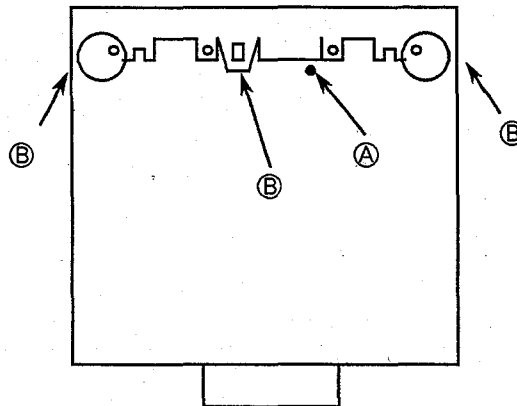

Figure 1 Bottom view
6. Release the hooks ② and remove the front panel assembly from the chassis, and remove the main volume PCB from the front panel (Figure 1).